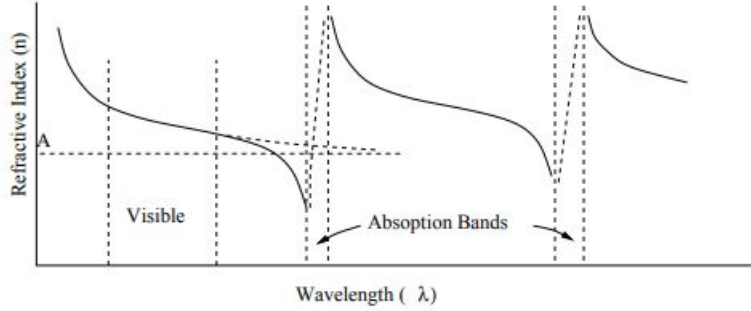

Figure 11: Anomalous dispersion
In (4), when  $\lambda = \lambda_0$ , the trend would diverge and give the same result as in figure 11. To explain many absorption bands, we have to assume different species of electrons with different natural frequencies  $\omega_j$  corresponding to wavelengths  $\lambda_j$  in the substance and then